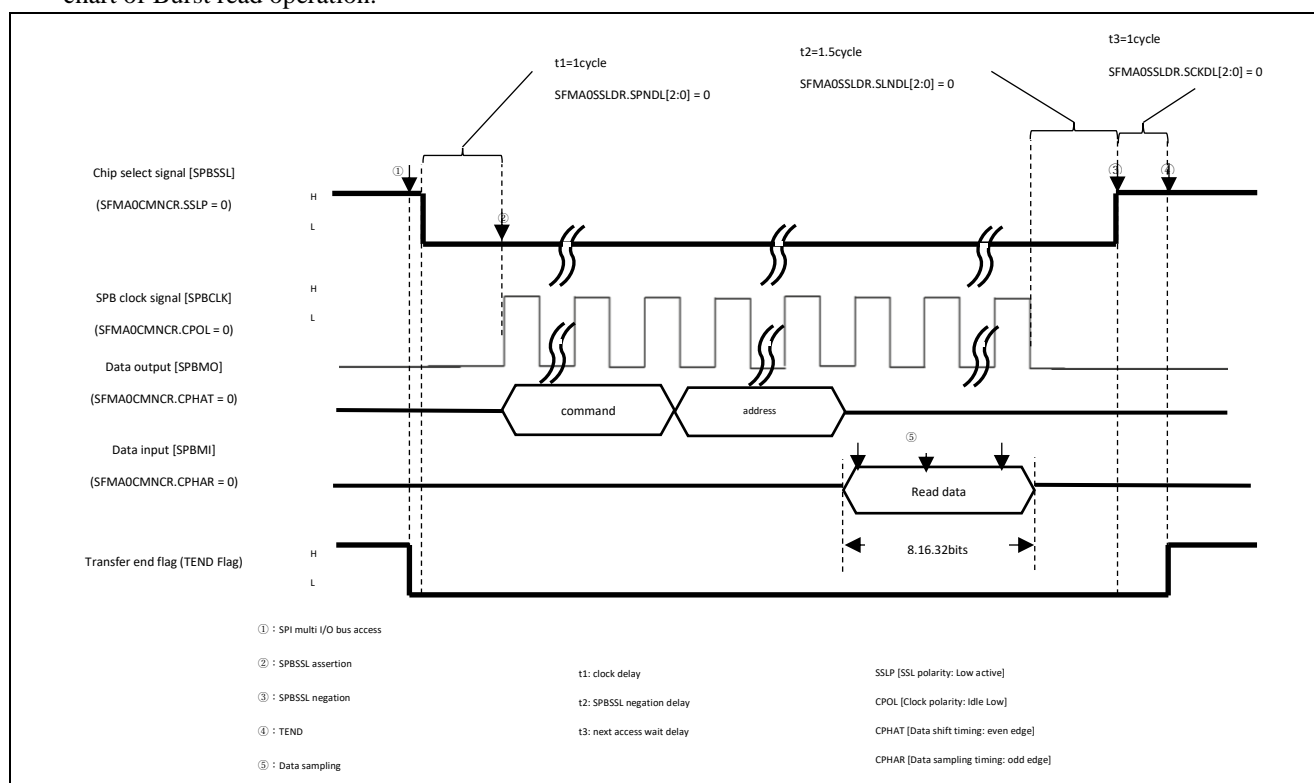

Figure 6 Normal read operation
- In normal External Address Space Read operation – read can be issued by byte, halfword or word depends on the internal address space access issued. Figure 6 Normal read operation shows timing chart of Normal read operation.